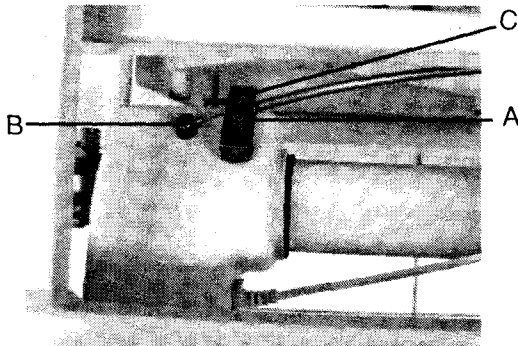

Figure 1 1232A118.tif
- 12 With the adjustable wrench, operate the release bracket (A) of the Head Section motor (refer to figure 1) so as to free the end ball of the cable at the release handle.
- 14 Free the cable from the cable stop (B) (refer to figure 1).
- 15 Pull the cable sleeve in order to remove the release bracket assembly (A) (refer to figure 1).
- 16 Recover the sleeve stop (C) (refer to figure 1).